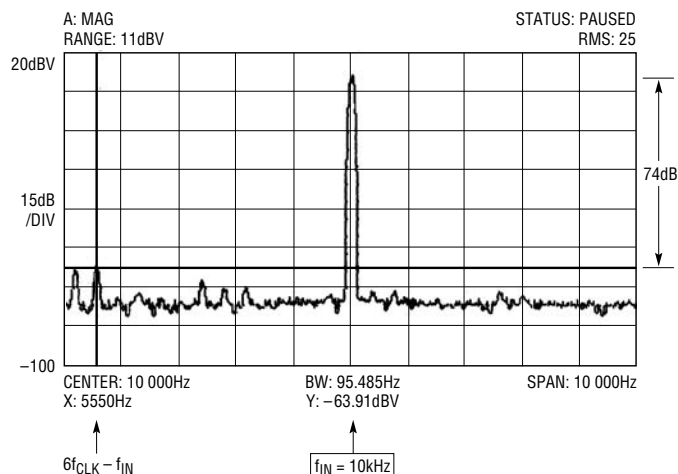

Figure 5b. Same as Figure 5a, but the AC Input Signal is 900mV, 10kHz
3. The number of alias signals increases when the input signal frequency increases (Figure 5b).
4. When the frequency, f_{IN} , of the input signal is less than f_{CLK} , the alias signal(s) amplitude(s) directly scale with the amplitude of the incoming signal. The output “signal to alias ratio” cannot be increased by just boosting the input signal amplitude. However, when the input AC signal frequency well exceeds the clock frequency, the amplitude of the alias signals does not directly scale with the input amplitude. The “signal to alias ratio” increases when the output swings closely to the rails. (See Figure 5b and Figure 7.) It is important to note that the LTC1051/LTC1053 op amps, under light loads ($R_L \geq 10\text{k}\Omega$), swing closely to the supply rails without generating harmonic distortion (Figure 8).